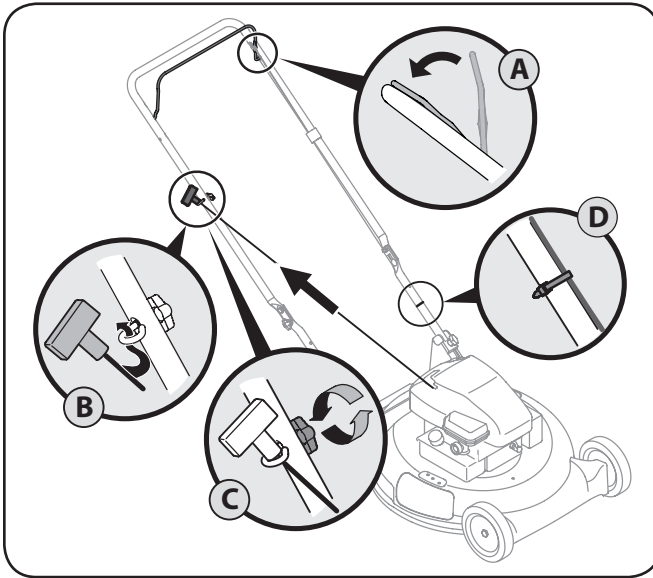

Figure 3-5
4. The rope guide is attached to the right side of the upper handle. Loosen the wing knob which secures the rope guide. See Fig. 3-5.
- b. Slowly pull starter rope handle from engine and slip starter rope into the rope guide. See Fig. 3-5.